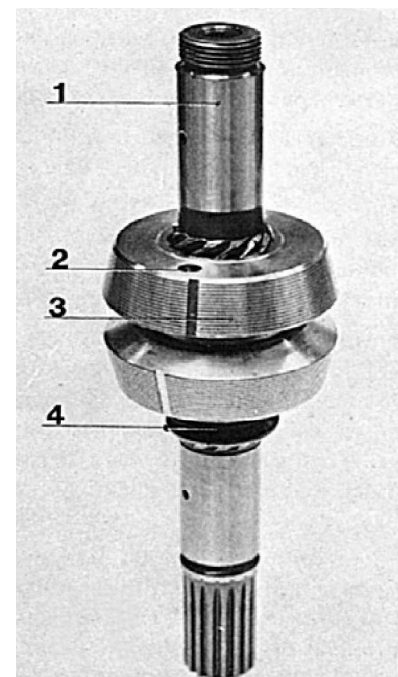

Fig. 17.
3. The engaging sleeve (44) should weigh lightly on the spring (45). Feel by hand if this is the case. See Fig. 17.